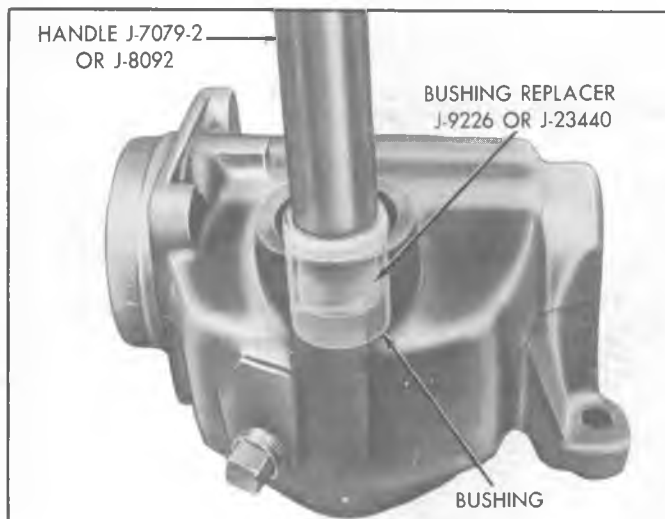

Fig. 5--Replacing Pitman Shaft Bushing--Typical
1. Support the steering gear in an arbor press and press the pitman shaft bushing(s) from the housing using Tool J-23440 with Handle J-8092 as shown in Figure 5.
1. Support the steering gear in an arbor press and press the pitman shaft bushing from the housing using Tool J-9226 and Handle J-7079-2 (fig. 5).